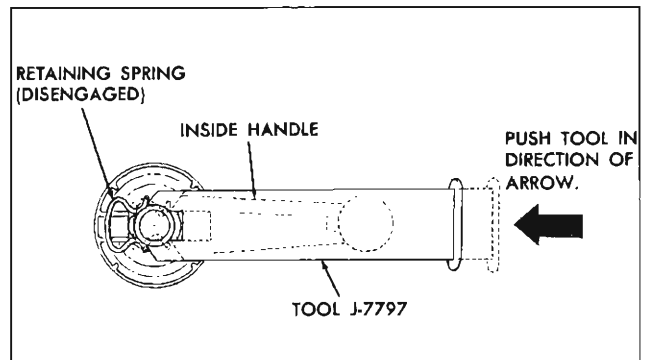

Fig. 13—Disengaging Handle Retaining Spring
3. To install, position retaining spring on handle and bearing plate over regulator spindle. Position handle on spindle at same angle as handle on opposite door and push handle until spring is engaged (fig. 13).